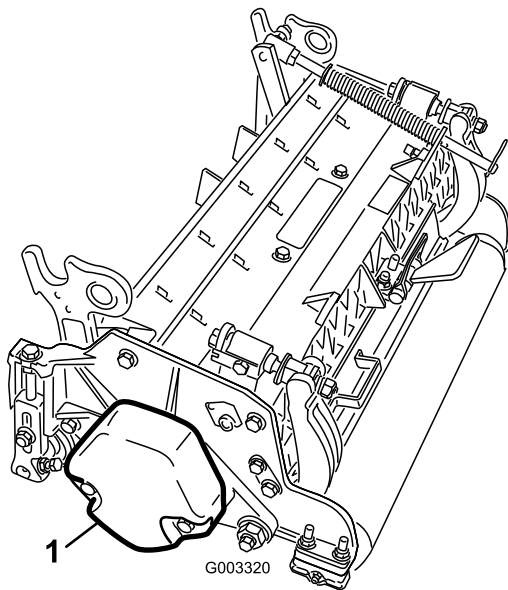

Figure 6
2. Remove the counter weight (Figure 6).